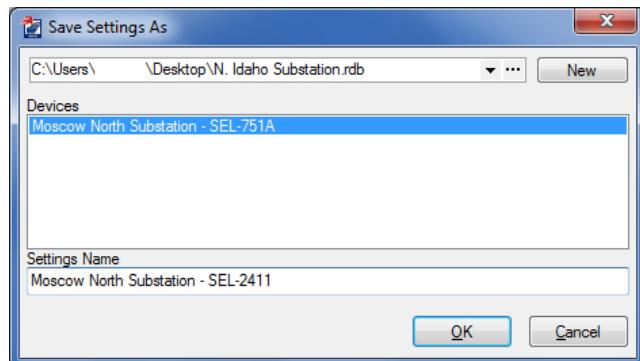
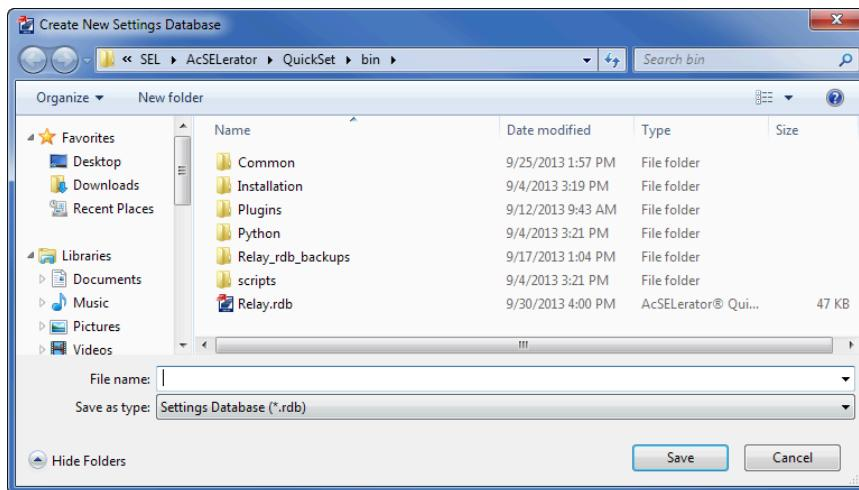

Figure 2.9 Save Settings as Window
Figure 2.10 Create New Settings Database
Step 12. Click **File > Save As**. Click **New** in the upper right-hand corner of the pop-up window (see *Figure 2.9*).
- Step 14. Navigate to the file location where you want to save the RDB, enter a descriptive file name for the RDB (see *Figure 2.10*) and click **Save**.
Alternatively, you can save settings in an existing RDB by clicking the ellipses (...), seen in *Figure 2.9*, and navigating to the file location of the existing RDB as in *Figure 2.10*.